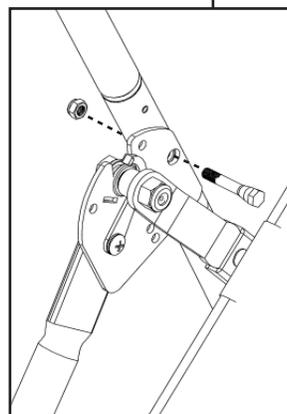

Figure 16A
- Insert the bolts (IA-1148) from the inside of the A-frame, and fasten with the nuts on the outside of the A-frame (Figure 16A). Tighten with wrenches provided (F5-1088).